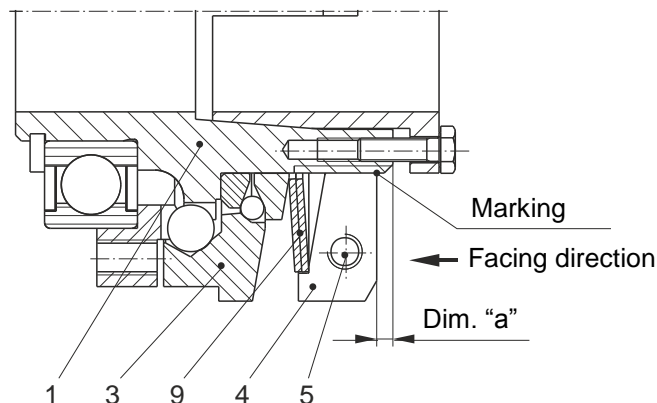
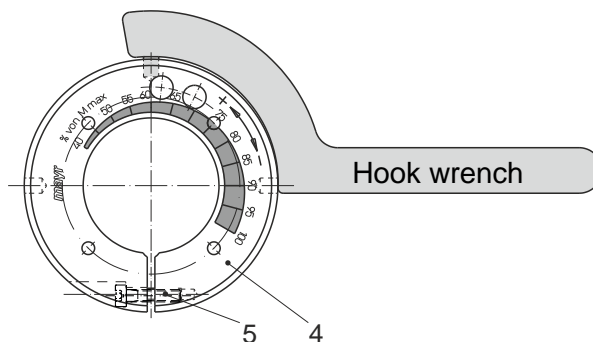
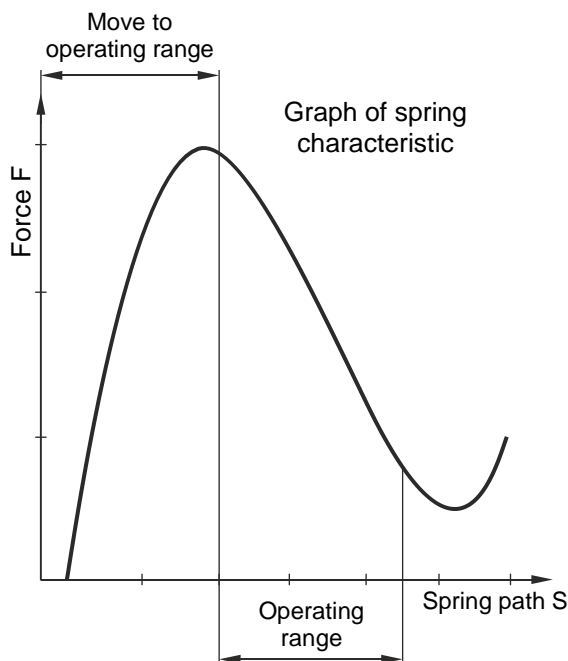

Fig. 10
Fig. 11
Fig. 12
Torque adjustment is carried out by turning the adjusting nut (4). The installed cup springs (9) are operated in the negative range of the characteristic curve (see Fig. 12); this means that a stronger pre-tensioning of the cup spring results in a decrease of the spring force.
If no particular torque adjustment is requested customer-side, the clutch will always be **pre-set and marked** (calibrated) manufacturer-side to approx. 70 % of the maximum torque. It is possible to check the **"Spring operation in the operating range"** (Fig. 12) using the dimension "a" (distance from the adjusting nut (4) facing side to the hub (1) facing side, as shown in Fig. 10).
You should be facing the adjusting nut (4) as shown in Fig. 10 and Fig. 11.
- b) Loosen the locking screw (5) in the adjusting nut (4).
c) Turn the adjusting nut (4) using the engraved adjustment scale (Fig. 11) clockwise or anti-clockwise using a hook wrench until the required torque is reached.
d) The required torque results from the marking overlap on the hub (1) and the percent value on the adjusting nut (Item 4 / Figs. 10 and 11).
e) Re-tighten the locking screw (5) (please observe the tightening torque acc. Table 5).
Adjusting the adjusting nut (4) or distorting the cup spring (9) outside of the cup spring characteristic curve (see Fig. 12) stops the clutch functioning.